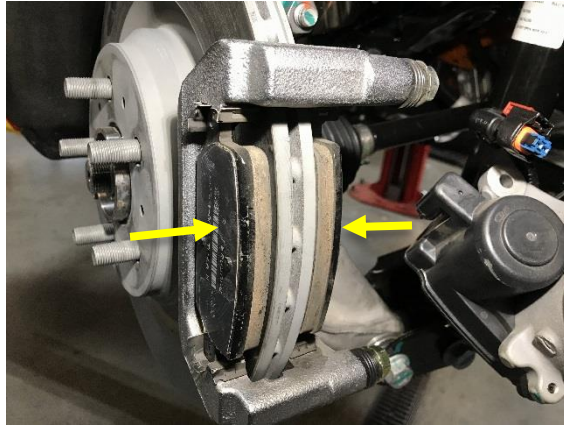

Figure 25 (Model 3 shown, other models similar)
31. Install the brake pads into the rear LH carrier (Figure 25).